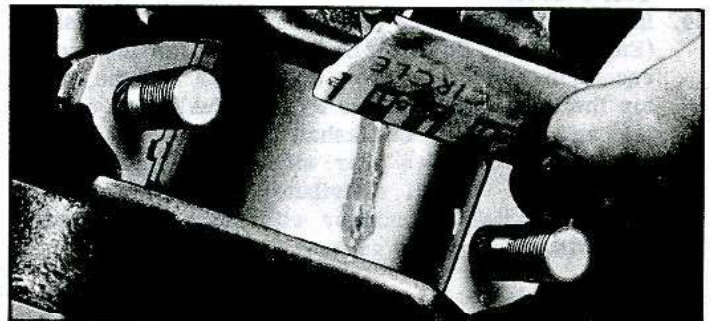

Fig. 124—Measuring Gauging Plastic
5. Remove the bearing cap and without removing gauging plastic, check its width at the widest point with the scale on the gauging plastic envelope (fig. 124).